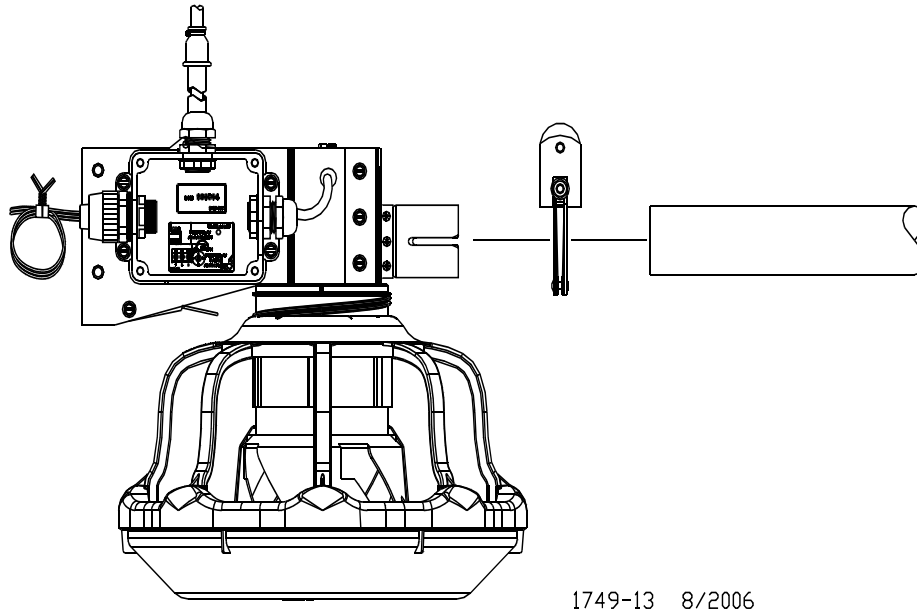

Figure 63. Connecting End Control Unit to the Feed Line Tube
1. Assemble the End Control Unit to the Feeder Line Control Tube using a clamp/anti-roost bracket. See **Figure 63. DO NOT INSTALL THE POWER UNIT AT THIS TIME.**